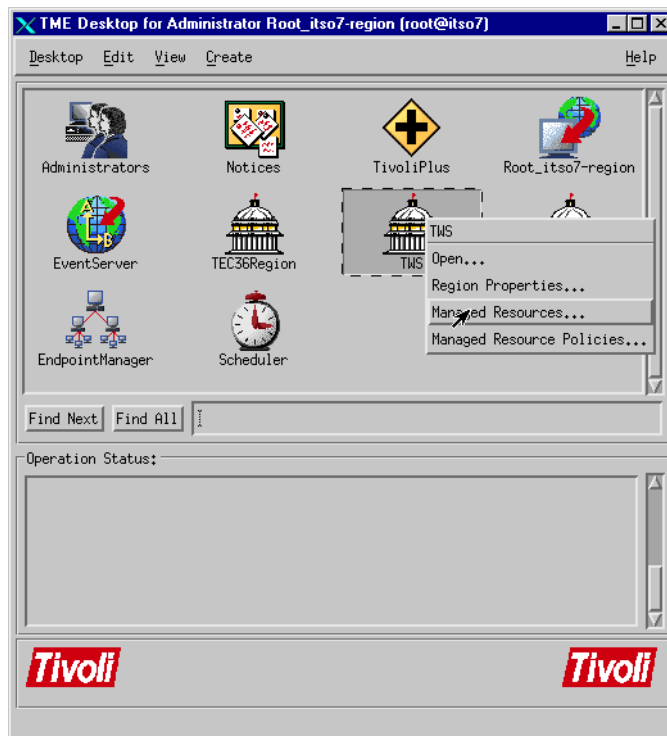

Figure 38. Setting Managed Resources
5. Next, you have to set the Managed Resources for that Policy Region. Right-click on the **TWS Region** and select **Managed Resources** as shown in Figure 38.